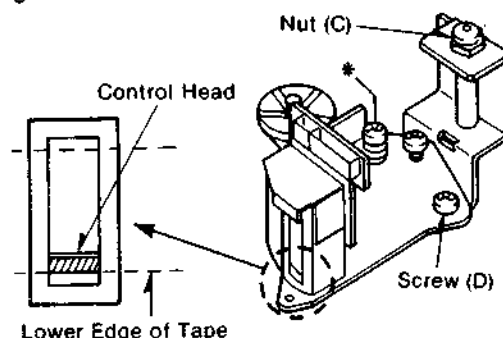

Fig. 2-21
- With the tape running, look at the lower edge of the control head by using the check light and check if the lower edge of the tape runs along the lower edge of the control head, see Fig. 2-21.
- If it doesn't, slightly turn nut C behind the A/C head (Fig. 2-21) to either lower or raise the A/C head so that the tape runs along the lower edge of the control head.